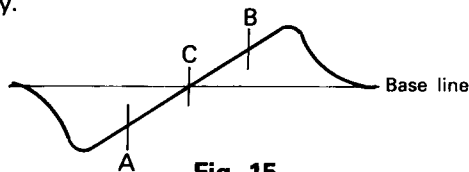

Fig. 15
5. Use the T202 core to form the S-curve shown in Fig. 15. Adjust the symmetry of A and B about point C for linearity.